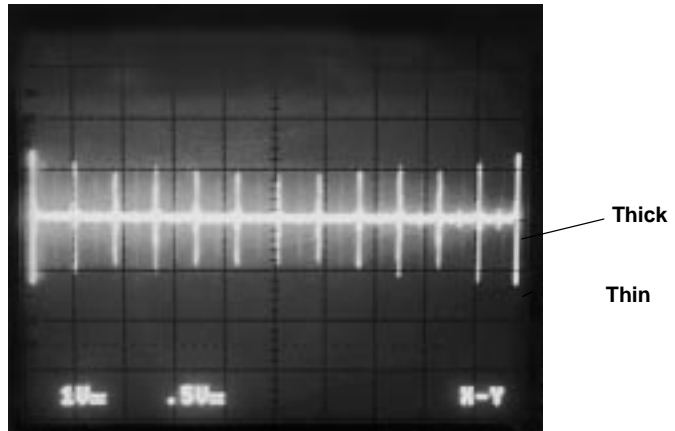

Figure 6-18. Oscilloscope “Thick and Thin Portion” Display
- Record the values of the thick and thin portion of the displayed waveform (Figure 6-18).